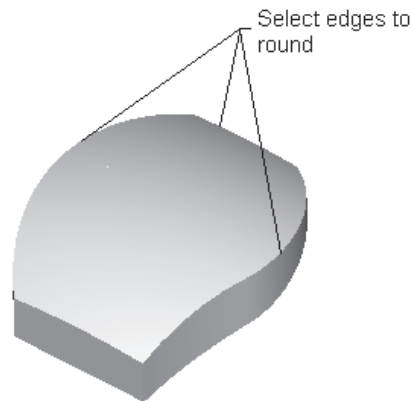

Figure 8-35 Edges to be selected to round
You will create round on the edges of the base feature. The edges you need to round are shown in Figure 8-35 .
3. The **Tangnt Chain** option is selected by default. Select the edges shown in Figure 8-35.